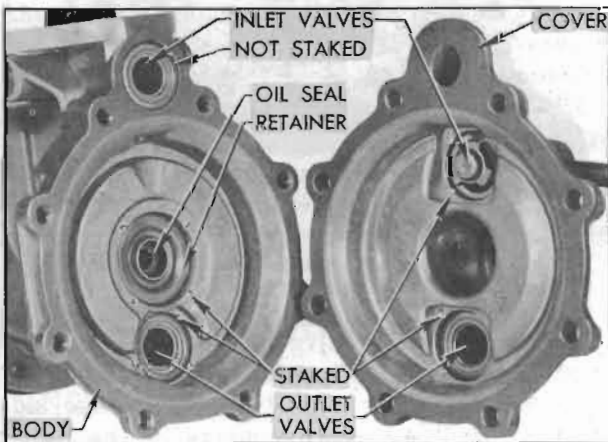

Figure 3-18—Vacuum Valves and Pull Rod Seal
then remove all valves from cover and body by prying out with a screwdriver or hook-shaped tool. The valve adjacent to body mounting flange is not staked in place. See figure 3-18.
3. Inspect the rubber pull rod oils seals in pump body. See figure 3-18. If damaged or of doubtful condition, pry out the metal retainer and discard the rubber seal. Place new seal in body with concave side outward, press metal retainer down firmly into body with the flat end of a rod $\frac{7}{8}$ " in diameter, then stake body metal in four places around the retainer.
2. Place a *new* valve gasket in each valve seat in vacuum cover. Place one valve in seat nearest inlet port with the spring cage side facing up. Place another valve in the outlet valve seat with the spring cage side down. Press valves down firmly against gaskets, then stake cover metal in four places around each valve. See figure 3-18.
3. Install gasket and valve, with spring cage side down, in seat farthest from mounting flange in pump body, then stake in place. See figure 3-18. Do not install the inlet valve adjacent to mounting flange at this time.